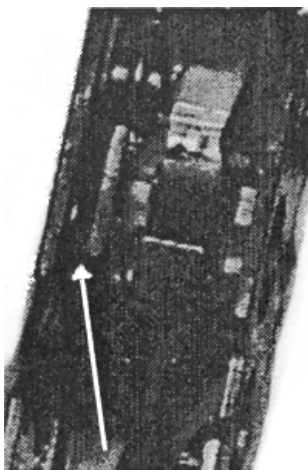

Figure 12
- Lift *counting wheel* up. The hammer spring hole should be directly under the *catch lever*. The left side of *wheel* should be lined up with the *ejector slot* of the left upper side of the housing. (Fig. 12)